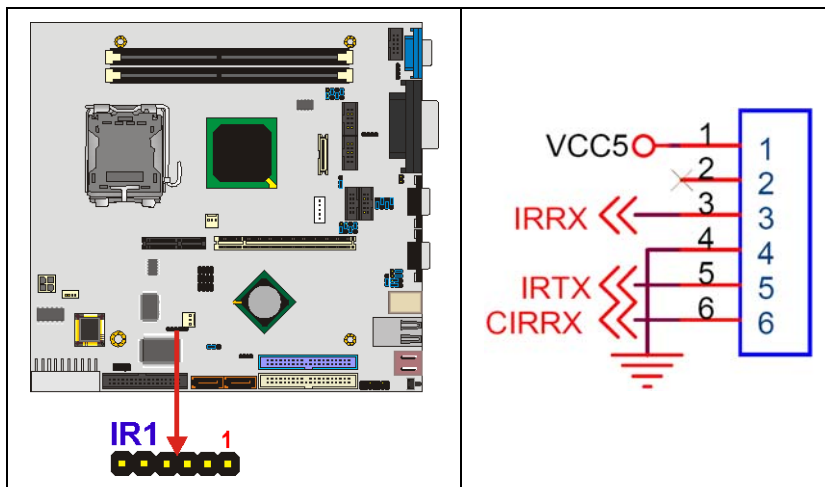

Figure 3-14: IrDA Connector Location
- CN Location:** See Figure 3-14